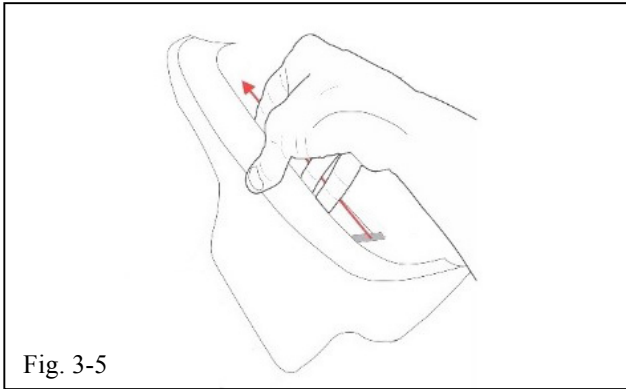

Fig. 3-5
- (g)  Carefully remove the tape liner on the top portion of the applique by pressing down on the front edge and pulling the rear edge up to gain access to the hidden liner. Once the liner is removed, press the area to adhere the part (Fig. 3-5).